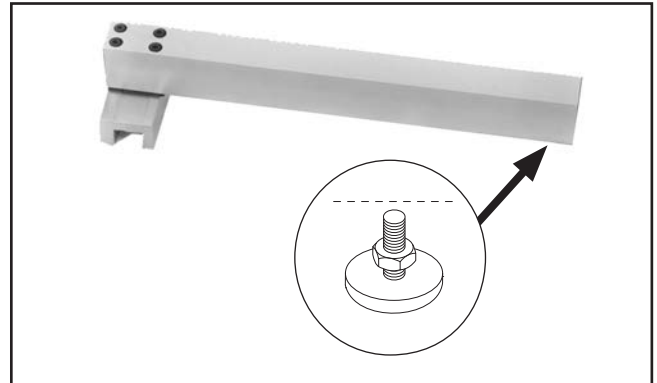

Figure 26. Location of fence adjustment screw.
4. Thread (1) M6-1 hex nut onto the fence adjustment screw and attach to bottom end of fence (see **Figure 26**).